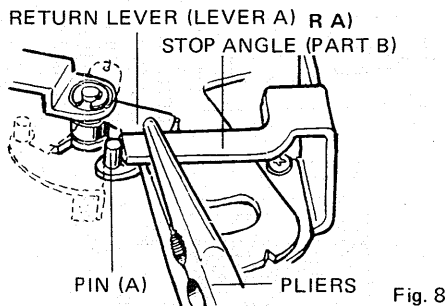

Fig. 8
- Refer to Fig. 8. Check that pin A (on return lever) is at same height as stop angle. If necessary, bend stop angle to assure that pin will be arrested by stop angle.